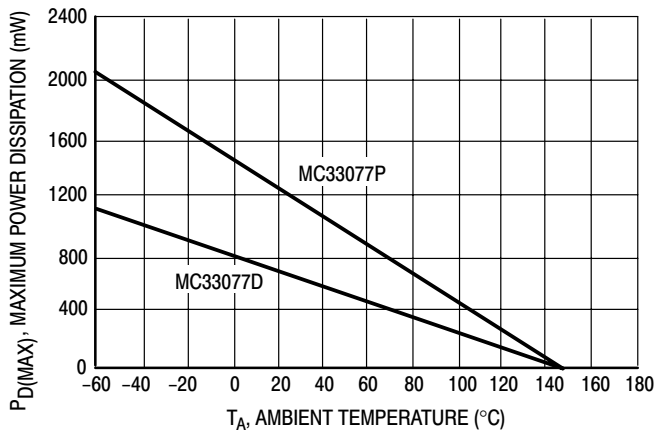

Figure 2. Maximum Power Dissipation versus Temperature
2. Power dissipation must be considered to ensure maximum junction temperature ( $T_J$ ) is not exceeded (See power dissipation performance characteristic, Figure 2).